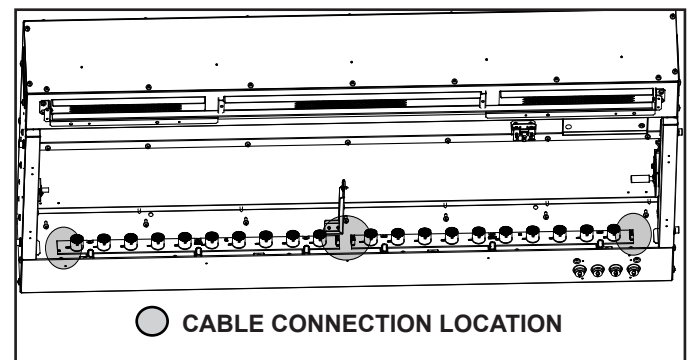

Figure 22. Unplug LED Board Cable Connections
21. Unplug cable connection on each end of the LED Board. See Figure 22.